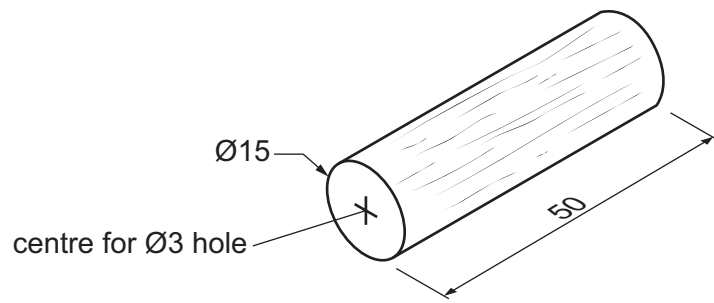

Fig. 12.3
- (e) Fig. 12.3 shows the hardwood dowel handle with its centre marked out on the end. A $\text{Ø}3\text{ mm}$ hole will be drilled in the centre of the dowel.